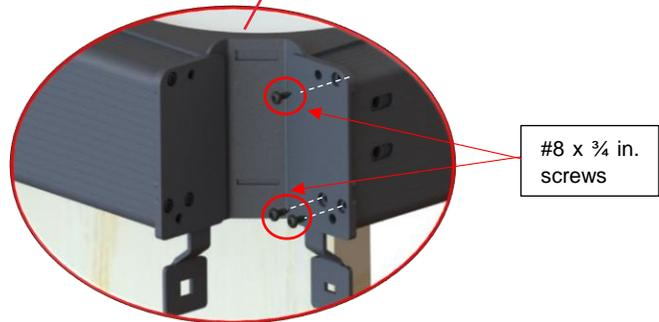

Figure 57
12) On the other end of the cover, slide the other corner bracket and C-channel assembly. Use the 50 ft. (15 m) ratchet straps on the corner of the corner brackets to properly lock in the foam panels. It will also help you to assemble the final part of the cover. The ratchet straps must bind the Evolution at the corner brackets like shown in Figure 57. The ratchet strap must not cover the screw holes on the corner bracket.